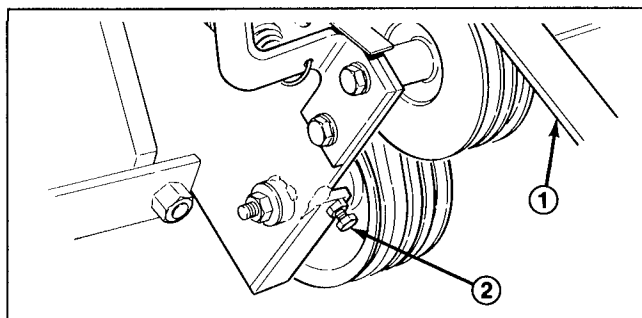

Figure 42
3. If coring head drive belt (Fig. 42) does not properly engage or disengage when entering or exiting the ground, check belt adjustment. Coring head mechanism should begin rotating 1" before tines contact turf.
C. Loosen adjusting screw jam nut (Fig. 42) on top of idler pulley bracket.
D. With engine running at idle speed, rotate adjusting screw (Fig. 42) until coring head just barely starts to creep or stops. Then tighten adjusting screw one more turn. Tighten jam nut.